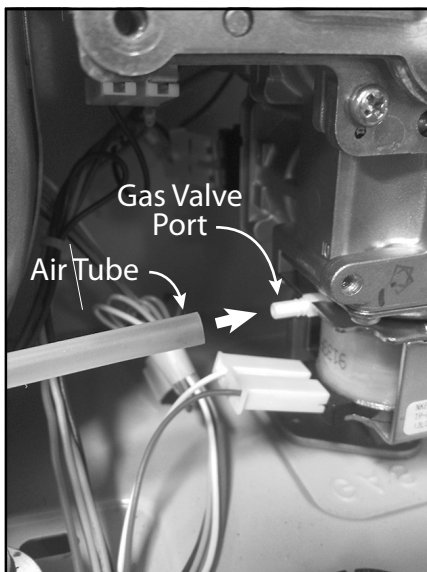

Figure 66.
- 8.5 Disconnect the clear air tube off the left side of the gas valve. (See Figure 66.)
- 3.5 Attach the clear air tube from the bottom of the combustion chamber to the port on the left side of the gas valve. (See Figure 66)